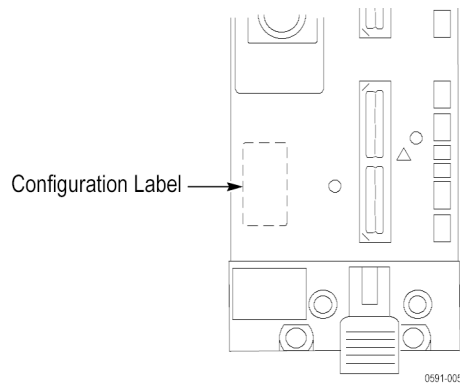

Figure 7: Configuration label location on pattern generator modules
8. Affix the new configuration label over the old label near the bottom of the front panel. (See Figure 7.)